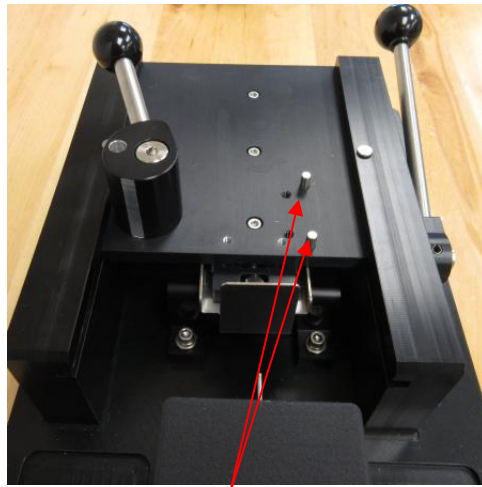
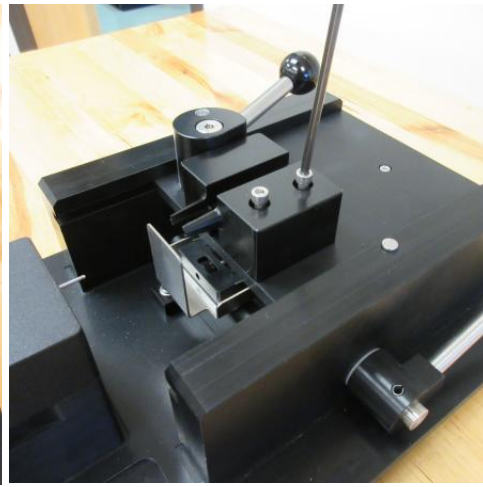

Figure 3
Figure 4
- Slightly squeeze jaws together and place on the two (2) dowel pins extending from thrust plate. (Figure 3) Attach jaws using two (2) 10-24 x 1-3/8" socket head cap screws. (Figure 4)
- Once the tubing and fitting have been removed from the machine, return the thrust lever to the rear position. (See Figure 3 for reference) Locate the Stop Gate Lever on the side of the machine, next to the Thrust Lever. (Figure 11)